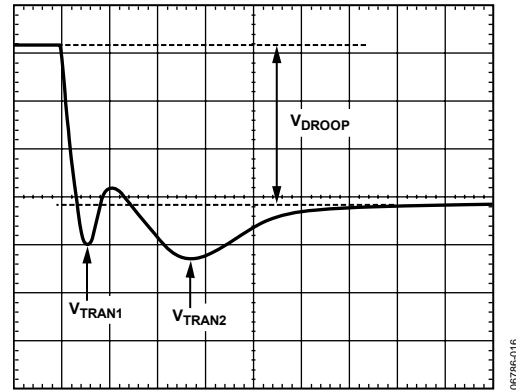

Figure 18. Transient Setting Waveform
18. With the dynamic load still set at the maximum step size, expand the scope time scale to either 2  $\mu\text{s}/\text{div}$  or 5  $\mu\text{s}/\text{div}$ . The waveform can have two overshoots and one minor undershoot (see Figure 18). Here,  $V_{DROOP}$  is the final desired value.